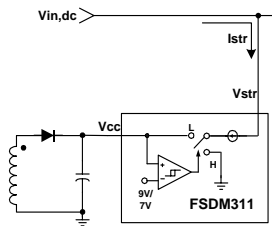

Figure 4. Internal startup circuit
1. Startup : At startup, the internal high voltage current source supplies the internal bias and charges the external Vcc capacitor as shown in Figure 4. In the case of the FSDM311, when Vcc reaches 9V the device starts switching and the internal high voltage current source is disabled. The device continues to switch provided that Vcc does not drop below 7V. After startup the bias is supplied from the auxiliary transformer winding.